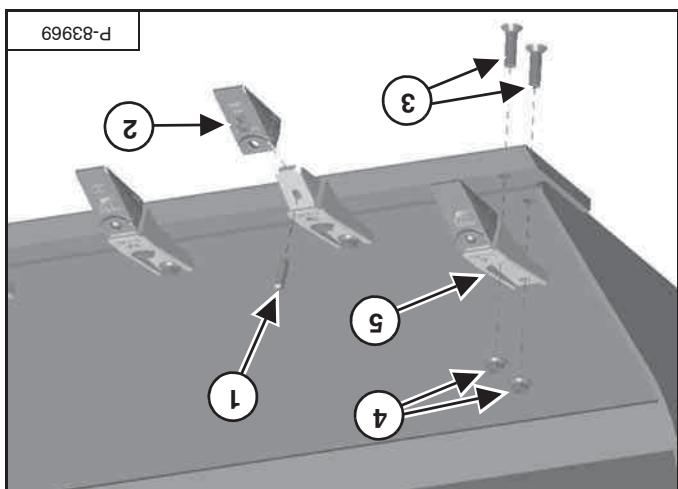

Figure 97
- Remove the two bolts (item 3) and nuts (item 4). Remove the tooth shank (item 5) [Figure 97].
- Drive the roll pin (item 1) out of the tooth. Remove the tooth (item 2) [Figure 97].